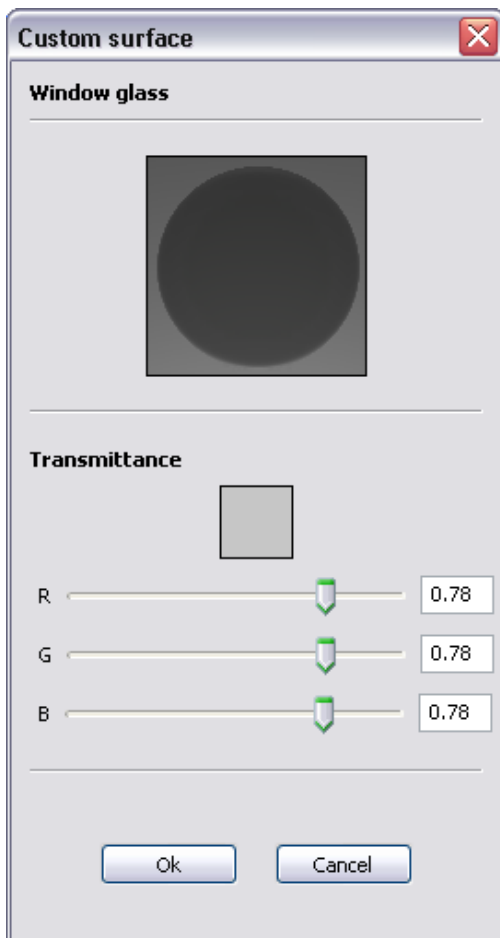

Figure 45 Custom window surface settings.
**Window glass** is used to model the behaviour of light passing through a window. Note that windows with more than one pane should be modeled as one layer in the CAD program and in the Daylight Visualizer given a combined light transmittance. Using the user defined option the transmittance is controlled by the RGB values that can be adjusted with the sliders and the text boxes, see Figure 45.